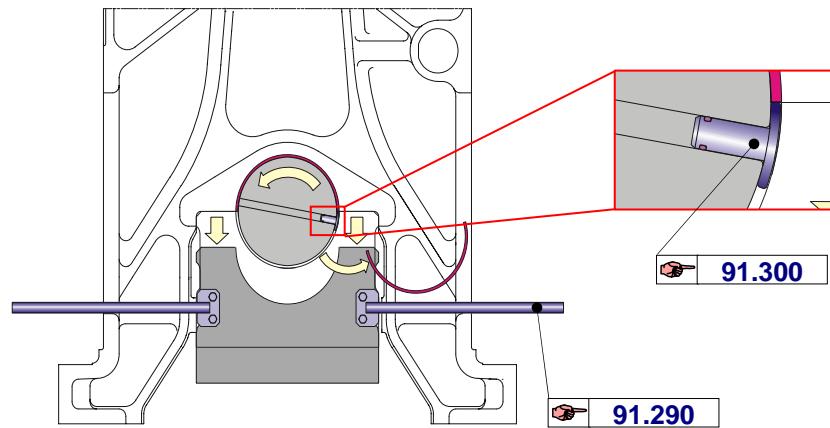

Fig. 3 Lower the bearing cap and mount the fitting plug (베어링 캡의 안착 및 피팅 플러그의 설치)
9. Turn the crankshaft and mount the fitting plug on the oil hole of the journal as shown in fig 3.